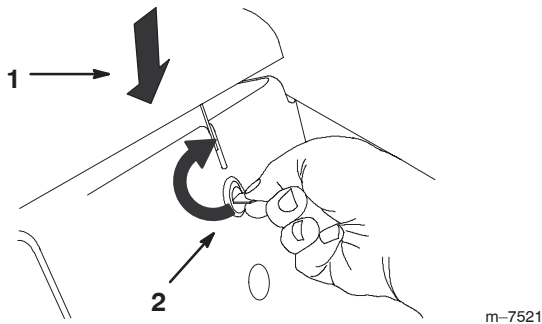

Figure 32
1. Push down on the hood while using the hood key, a coin, or screwdriver to turn the hood latch clockwise (Fig. 32).